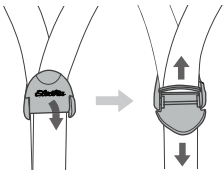

Figure 3.
2. Unlock the strap adjustor (Figure 3).